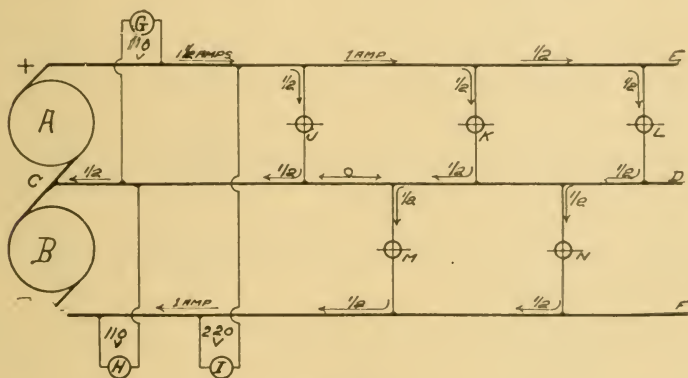

FIGURE 17
The 3-wire system is the most widely used for distribution of current for light, heat and power. It is diagrammatically illustrated in Fig. 17. (35) It is based on the principle that if two generators are connected in series—that is to say the positive pole of one is joined to the negative pole of the other—the voltage of the two generators will be added together, so that lines attached
to the outer negative and the outer positive will be charged at double the voltage of each generator considered singly. Thus: (36) if two 110 volt generators are joined, the outside negative and positive would have a potential difference of 220 volts. (37) If we attach a third wire to the connection between the inner generator poles, C, Fig. 17, then that line (termed the "neutral" wire) will act as positive for one generator as if there were but one generator and negative for the other
(39) On the other hand, if the load on either side of the neutral wire is unequal, then the amount of the unbalanced load will flow back to or out from the generator on the “heavy” side, the direction of the flow depending upon whether the neutral is negative or positive to the generator connected to the “heavy” load.
(40) In Fig. 17 are three lamps, each using 0.5 of an ampere, connected between the upper outside wire and the neutral. Two lamps, each using 0.5 of an ampere, are connected between the lower outside wire and the neutral. We thus have a load balance of one ampere, with 0.5 of an ampere over. The surplus must therefore flow back to the upper generator over the neutral because it is negative to that generator. Under the newer interpretation it flows out, since we now consider current as flowing from negative to positive instead of from positive to negative.